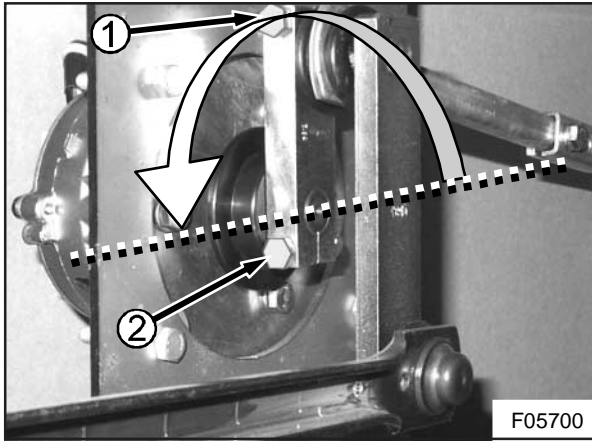

Figure 6: Bell crank and clamp after ¼ turn has been completed (left-hand tie bar up)
Figure 6 shows the bell crank and clamp after ¼ turn has been completed (for the sake of clarity the picture has been taken from the front of the coach).
- 11) With a 10 mm box wrench and a socket and ratchet undo the bolt and nut securing the bell crank to the clamp (see 1, Figure 6).
- 14) With a 10 mm box wrench and a socket and ratchet, undo the bolt and nut securing the clamp to the wiper motor shaft (see 2, Figure 6). Remove the clamp.